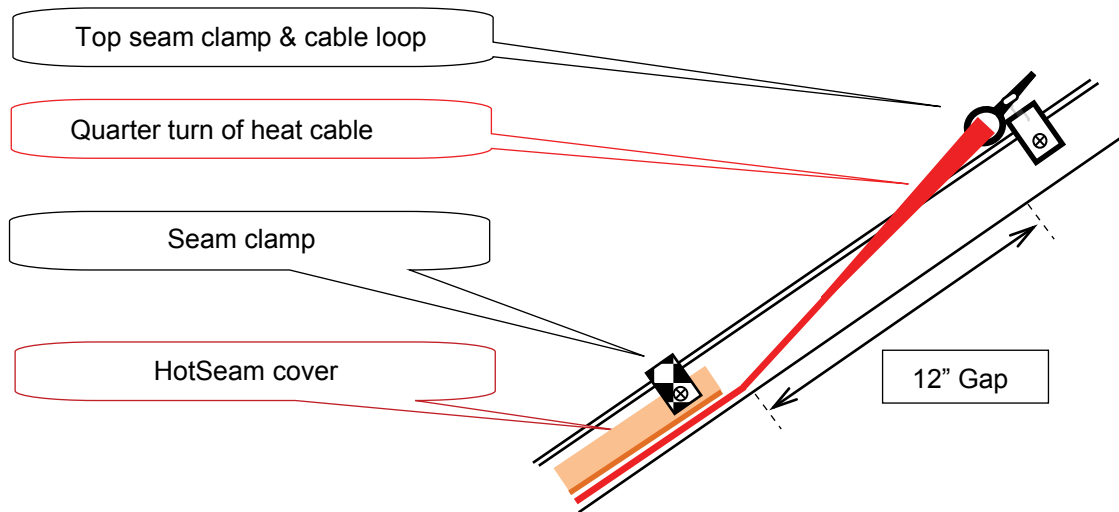

Figure 4 – HotSeam cover
The HotSeam cable cover shown in Figure 4 is similar to an upside down HotEdge configuration. The cable cover provides a pleasing street view appearance. The partial exposure of the heat cable meets the NEC Article 426 requirements.
The top seam cable crossover retention loop, as shown in Figure 4, is required to retain the heat cable at the top of the cable run. Sliding snow and ice can pull the entire cable run away from the roof unless this attachment point is secure. A 12" transition gap, shown in Figure 4, allows the heat cable to be twisted a quarter turn to enter the raceway under the HotSeam cover.
5. At the top of each run, allow a twelve inch space between the top of the HotSeam cover and the bottom of the cable loop to allow a quarter turn of the heat cable. See Figure 4 for details.